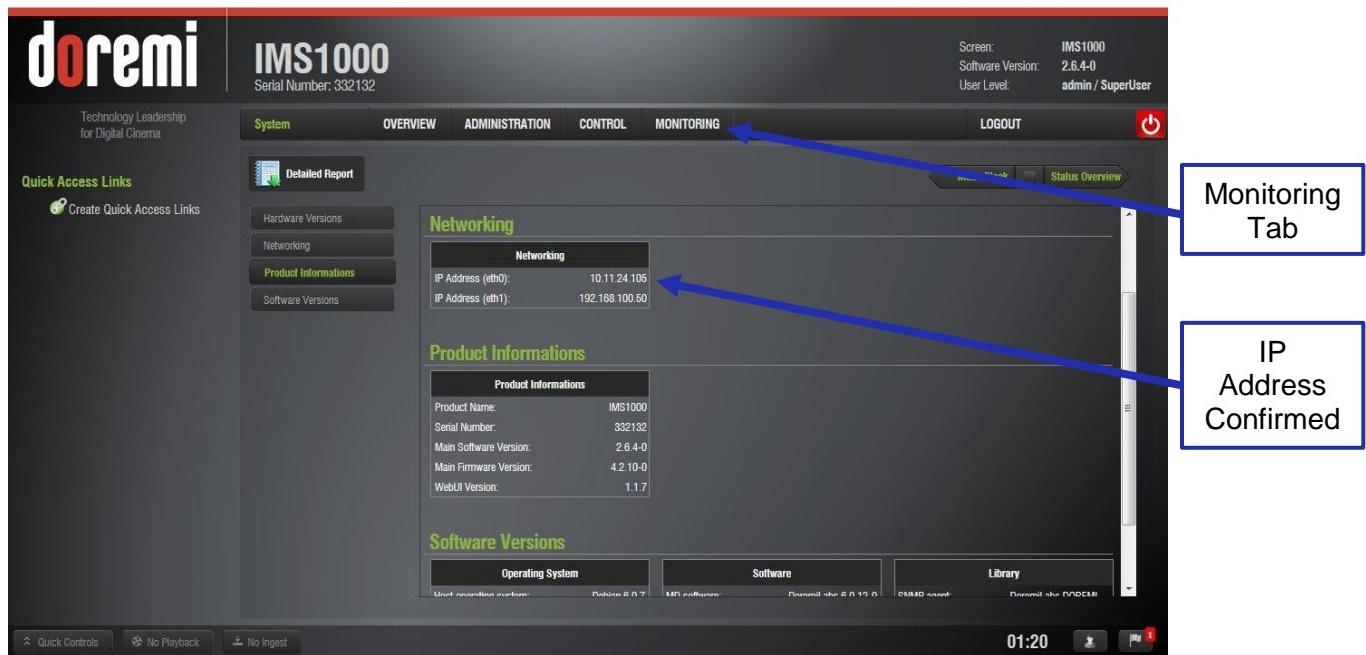

Figure 99: System Monitoring Tab Window
- To verify the setup, go to Monitoring Tab → Diagnostics → System → Networking and verify the IP Address listed in the area labeled Networking (Figure 99).